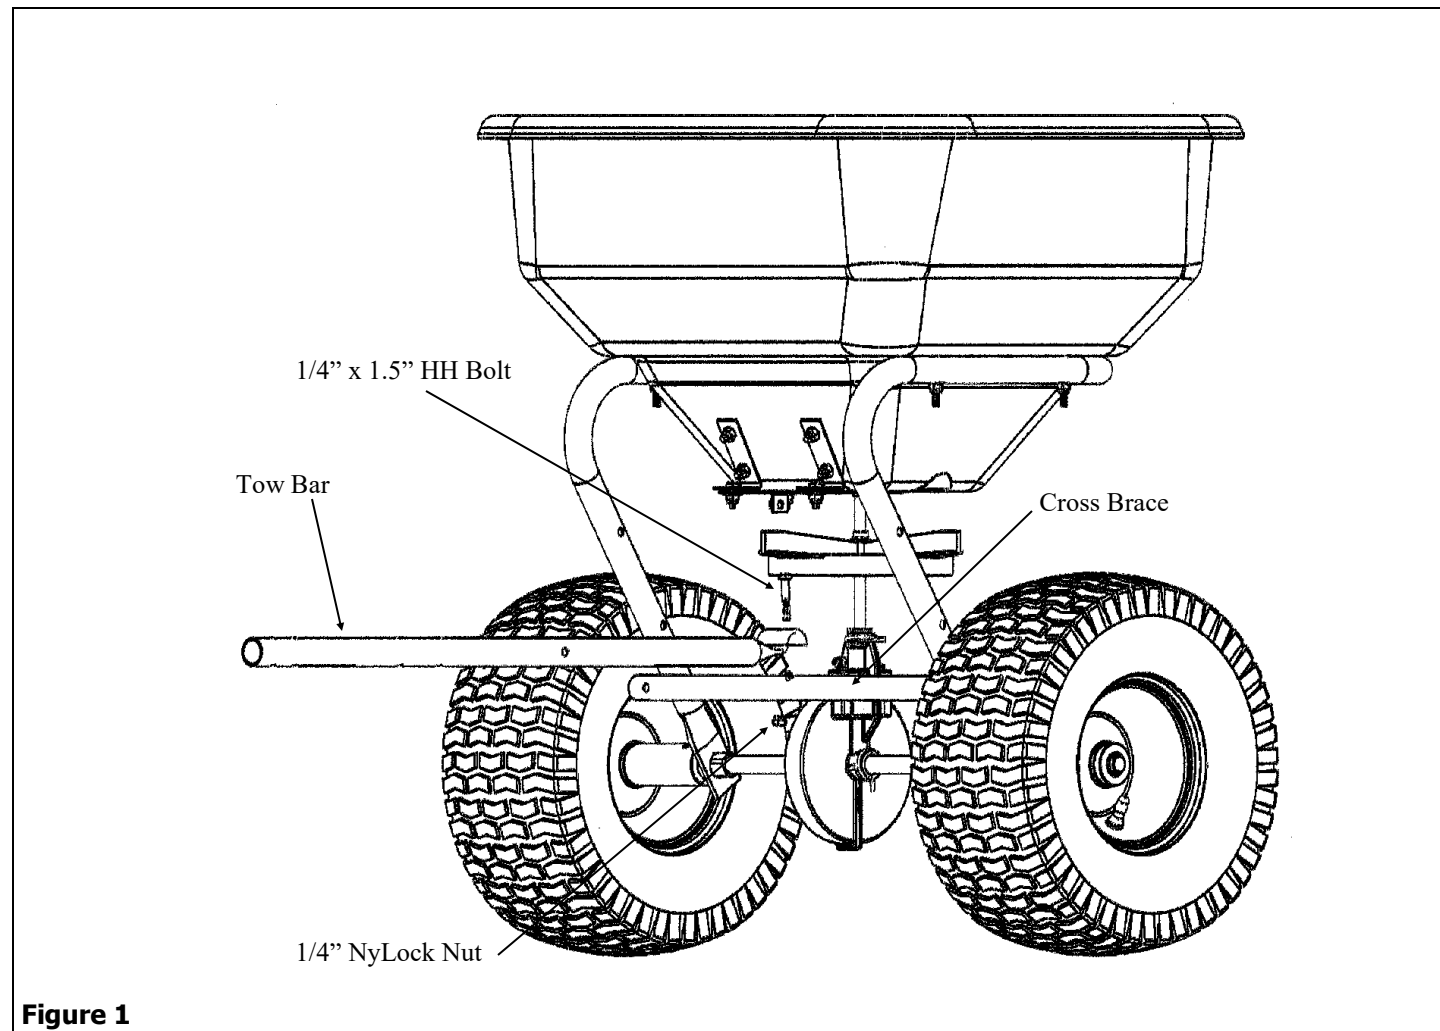

Figure 1
1. Attach the Tow Bar to the center hole on the Cross Brace using a 1/4" x 1-1/2" Hex Head Bolt and a 1/4" Nylock Nut. See Figure 1.